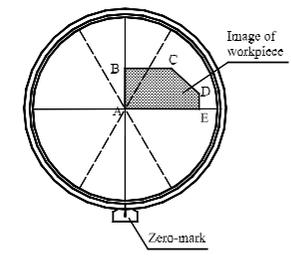

Fig.11
--Adjust the measuring edge to be parallel respectively with X axis and Z axis. See AE // X, AB // Y of the Fig. 11.